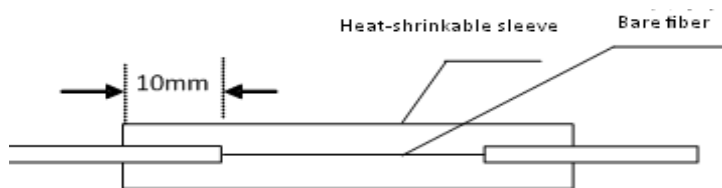

Fig. 7-7 Utilization of protection sleeve
- b) Move the sleeve to a bare fiber and put them into the heat oven together... Center the sleeve in the oven. The placement position must be correct as shown in Fig.7-7.